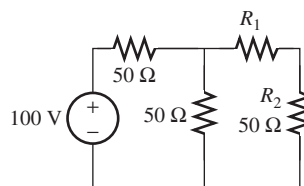

FIGURE P3.73 Circuit for Problem 3.73.
- 3.73** (B) Find the resistance R_1 in Figure P3.73 to transfer maximum power to R_2 .